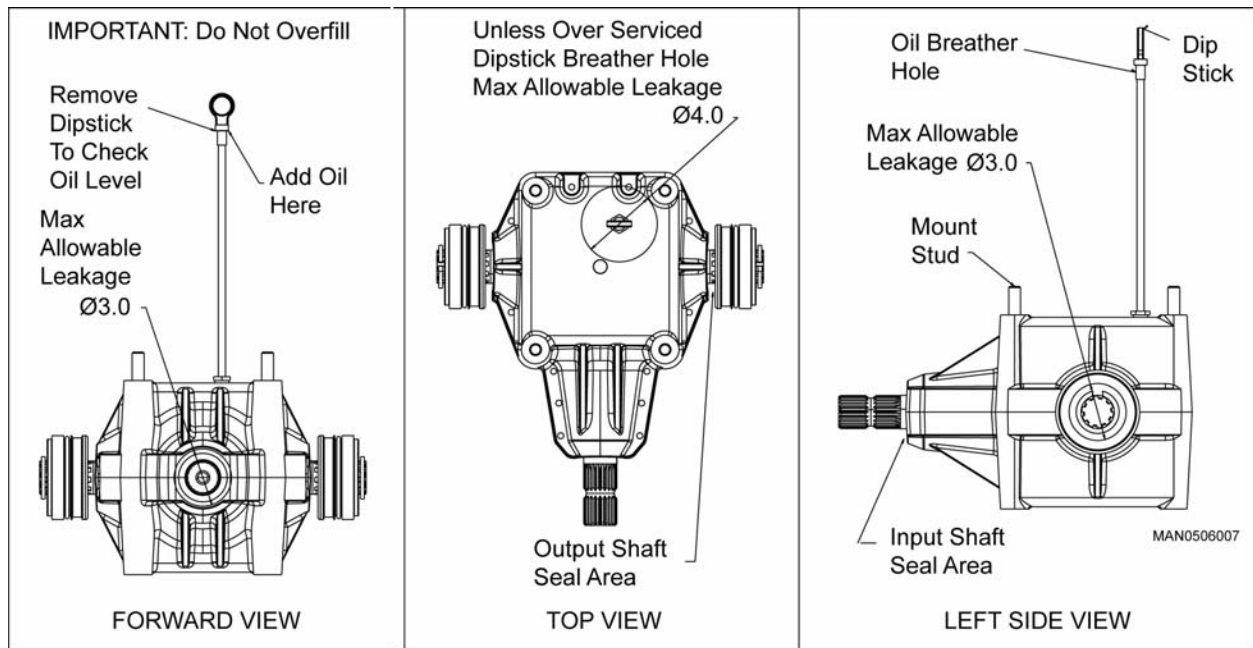

Figure 29. Acceptable Oil Leakage
1. Oil covers less than a 3-inch diameter circle around the shaft seal area (see Figure 29).
2. Oil covers less than a 4-inch diameter circle around the dipstick tube (see Figure 29).